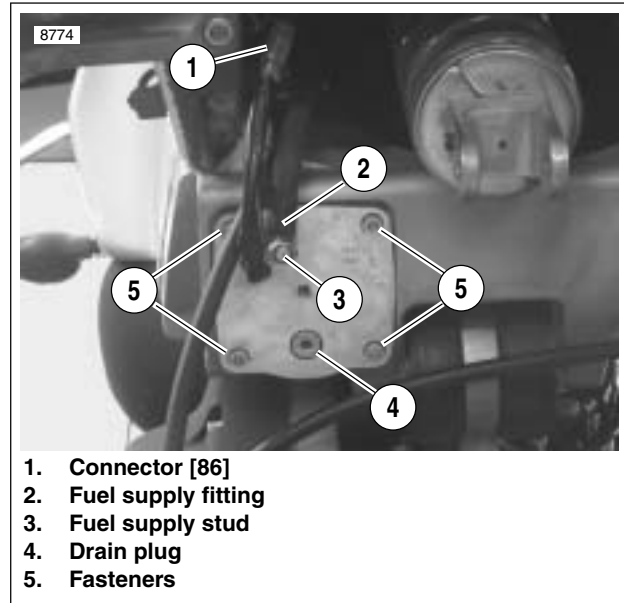
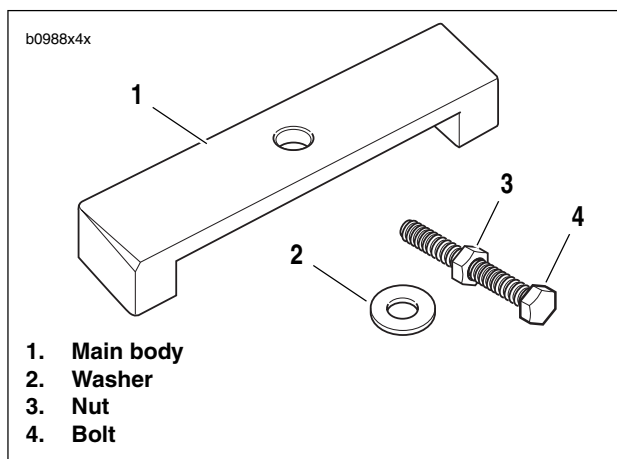
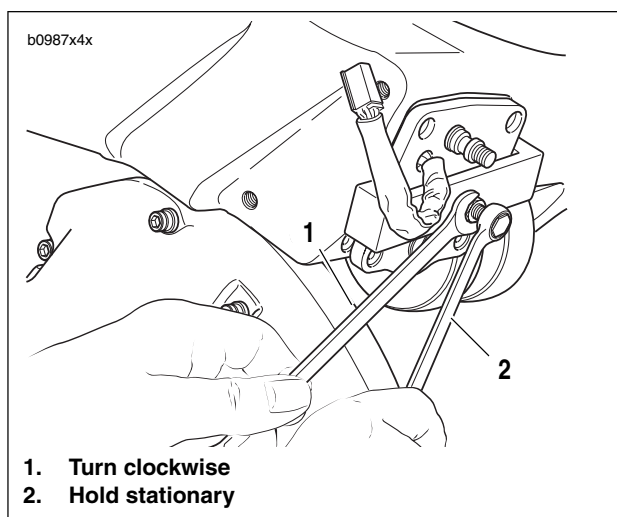

Figure 4-84. Fuel Pump Location
Figure 4-85. Fuel Pump Puller
Figure 4-86. Fuel Pump Removal
- a. See Figure 4-84. Disconnect the 4-place fuel pump connector (1) [86]. Connector is located inside the left rear portion of the fuel tank/frame.
4. See Figure 4-84. Remove fuel line from fuel supply fitting (2).
5. Remove four fuel pump fasteners (5).
6. See Figure 4-85. Assemble fuel pump puller.
- a. Thread nut (3) onto bolt (4).
- b. Slide washer (2) onto bolt.
- c. Insert bolt assembly into hole in main body (1).
7. See Figure 4-86. Place the main body of the fuel pump puller over the fuel pump assembly.